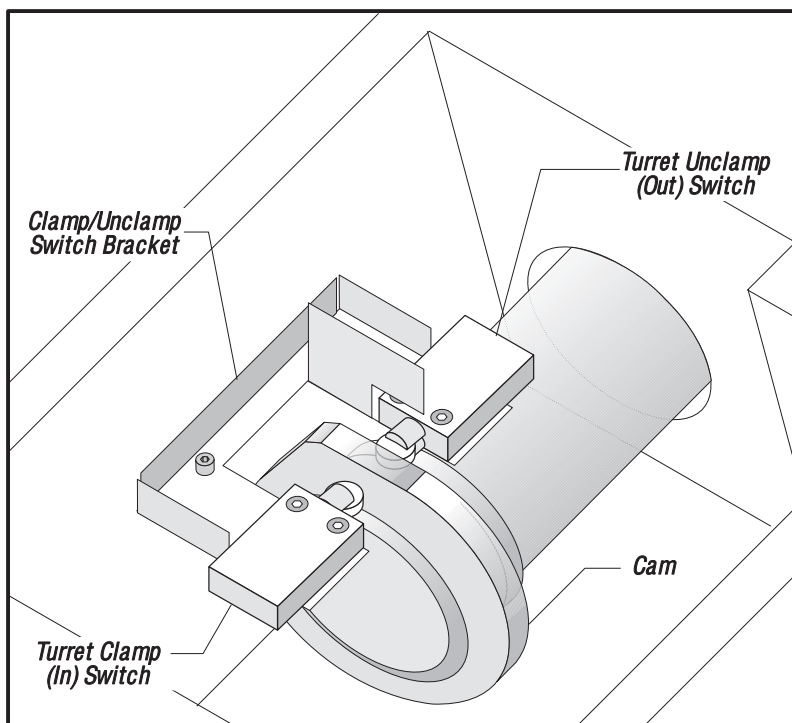

Figure 3-6. Turret Clamp/Unclamp switches.
- e. If either switch does not trip when the gage block is in place, the switches need to be adjusted. Adjust the switches by loosening the two SHCS and moving the entire switch bracket; DO NOT move the individual switches unless absolutely necessary. Refer to Figure 3-6.